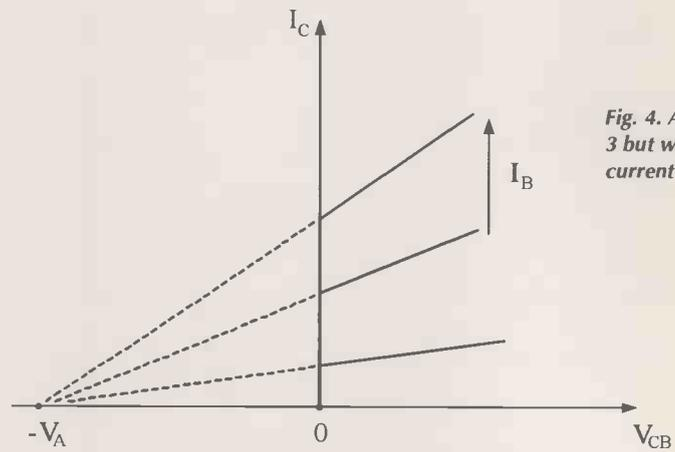
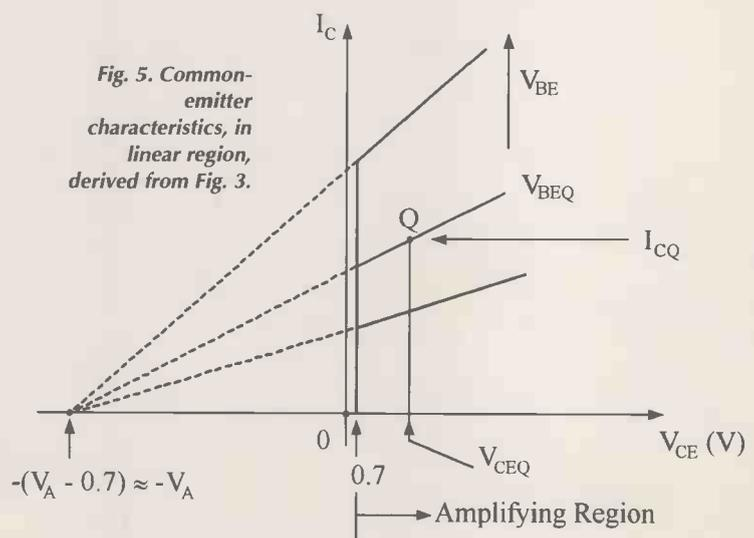
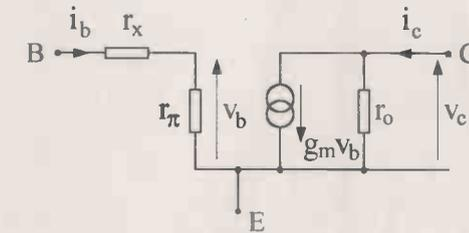

Fig. 4. As for Fig. 3 but with base current drive.
Fig. 5. Common-emitter characteristics, in linear region, derived from Fig. 3.
Fig. 9. Showing three choices for a small-signal low-frequency equivalent circuit of the bjt.
For a given V_{CB} , the relevant output characteristics with I_B the controlling parameter, are now equally spaced, Fig. 4. Rather than I_C as a function of V_{CB} , we are often more interested in I_C as a function of V_{CE} . To determine this we substitute $V_{CB}=(V_{CE}-V_{BE})$ in eqn (13).
In that case the output characteristics are shown in Fig. 5. They are those of Fig. 4 shifted horizontally to the right by 0.7 V. Figure 6 is derived, similarly, from Fig. 4.
The I_{BQ} of Fig. 6 is chosen to correspond to V_{BEQ} in Fig. 5. Incremental resistance at operating point Q is given by,
Three choices for the small-signal low-frequency equivalent circuit of the bipolar transistor are shown in Fig. 9. These are constructed from the parameters, already defined, by standard model building procedures as, for example, in ref. 4. Thus, the output circuit of Fig. 9a) is developed from Fig. 5 by considering small changes about the point Q and the output circuit of Fig. 9b) is similarly related to Fig. 6.